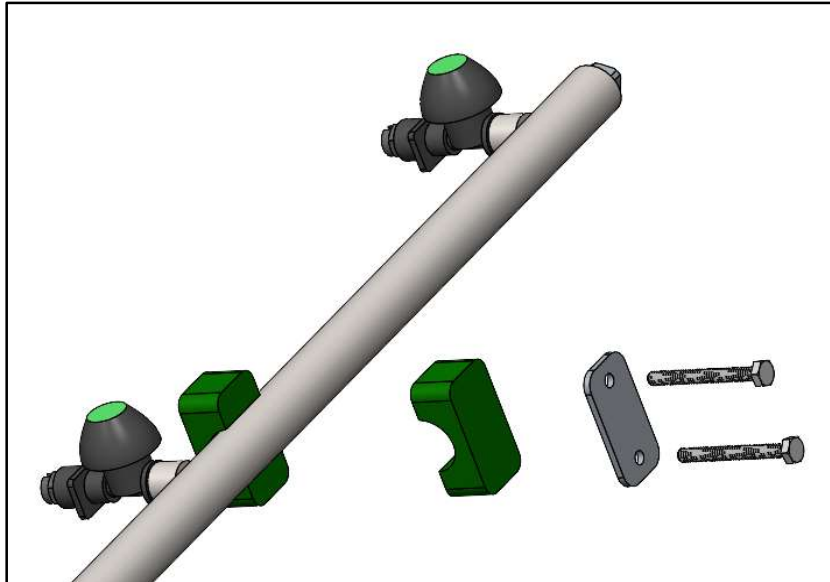

Figure 8: Hinge mount clamp assembly order. End result should be the two green pieces pressed around the manifold.
10.) Remove the fasteners off of each of the two green manifold mounts on the outer hinge mounts and set aside. The center hinge mount will not include a manifold mount. Separate the two halves of each mount and apply them to the manifold as shown in **Figure 8**. Take note of the position of the manifold mount relative to the nozzles as shown in **Figure 9**, this is critical for proper install.